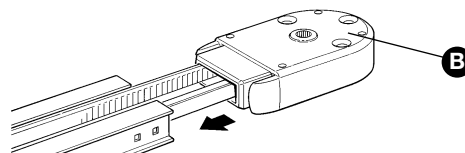

Figure 20
**8** Assemble the Guide [B] head as in fig. 20. This operation requires a particular amount of force, so if necessary use a rubber hammer